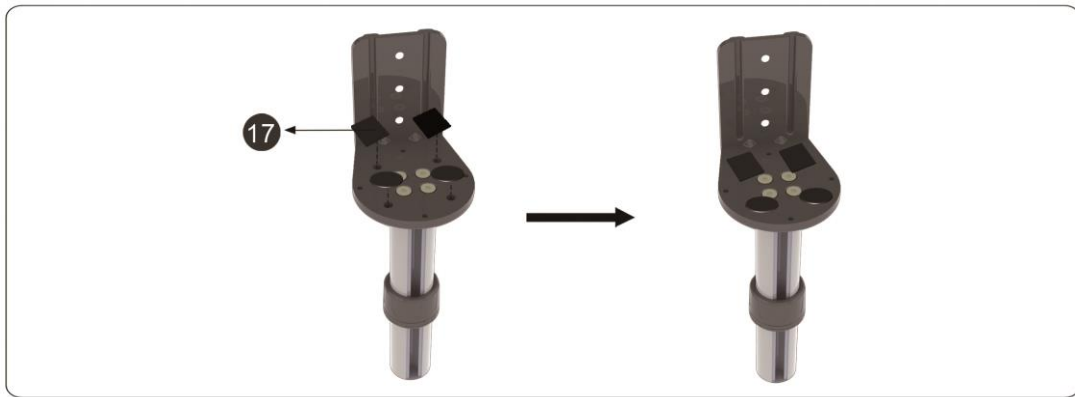

Figure 1-3
3. Attach the four gasket cushions (17) to the base of the larger L plate (See Figure 1-3).